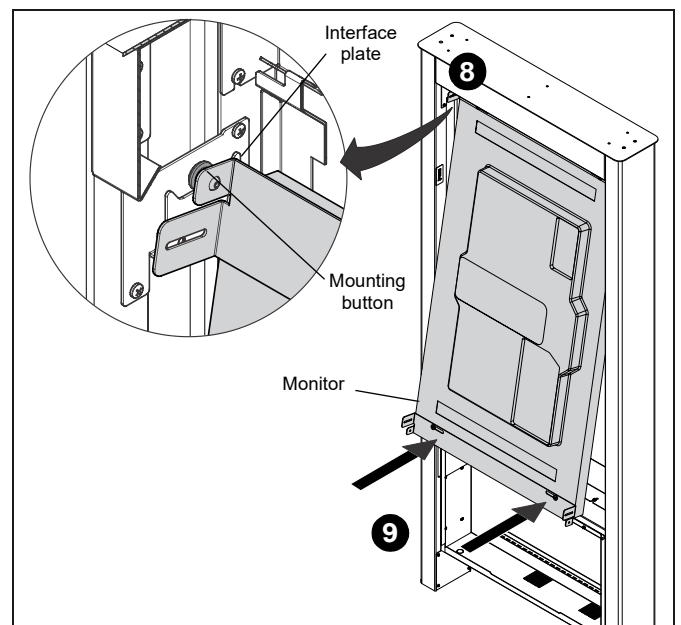

Figure 8
8. Tilt the top edge of the monitor into the kiosk frame (A) and rest the mounting buttons on the upper interface bracket into the recessed areas in upper interface plates.
9. Rotate the bottom edge of the monitor down into the kiosk frame until the long slots in the lower interface brackets line up with the holes in lower interface plates. (See Figure 8)